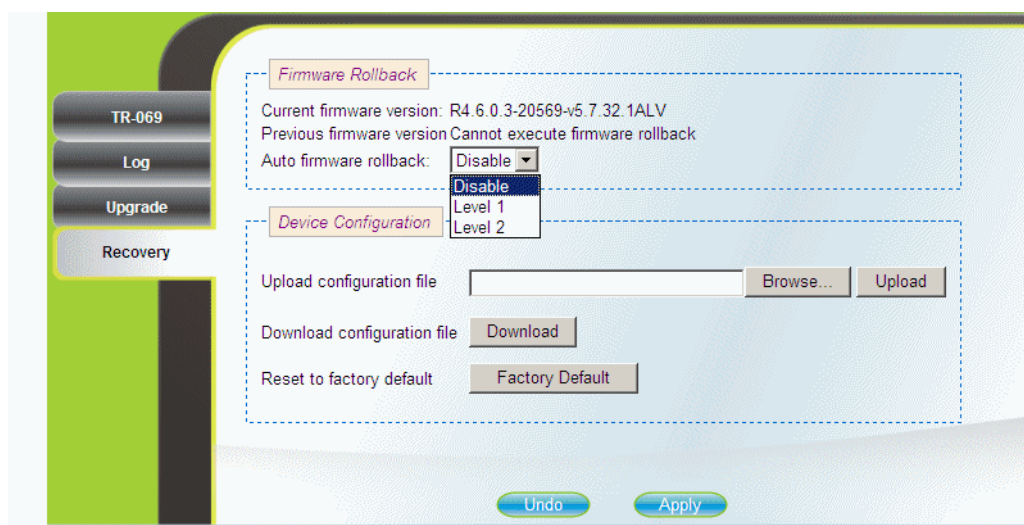

Figure 30: Recovery Page
- 9 Enter a Username, Password and the Version of the default configuration (as appears in the Factory default version of the Recovery page; see Figure 30); Click **Login**; A status bar appears displaying the process of ConfigFile generation.